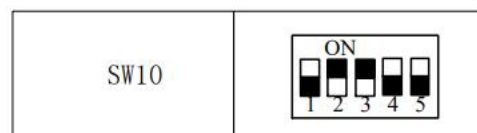

Figure 6
7. Check the dip switch position, see Figure 6.